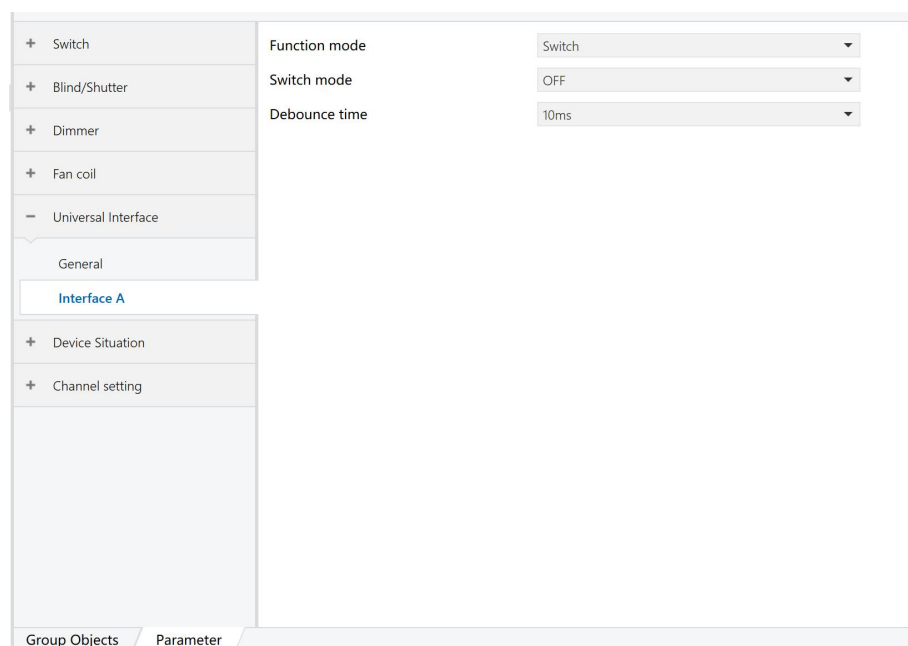

Figure 6.5.2
1)After the setting is completed, four dry contact interfaces, Interface A-D, will appear on the right, click each dry contact interface to set its parameters. Take Universal Interface A as an example, as shown in Figure 6.5.2.